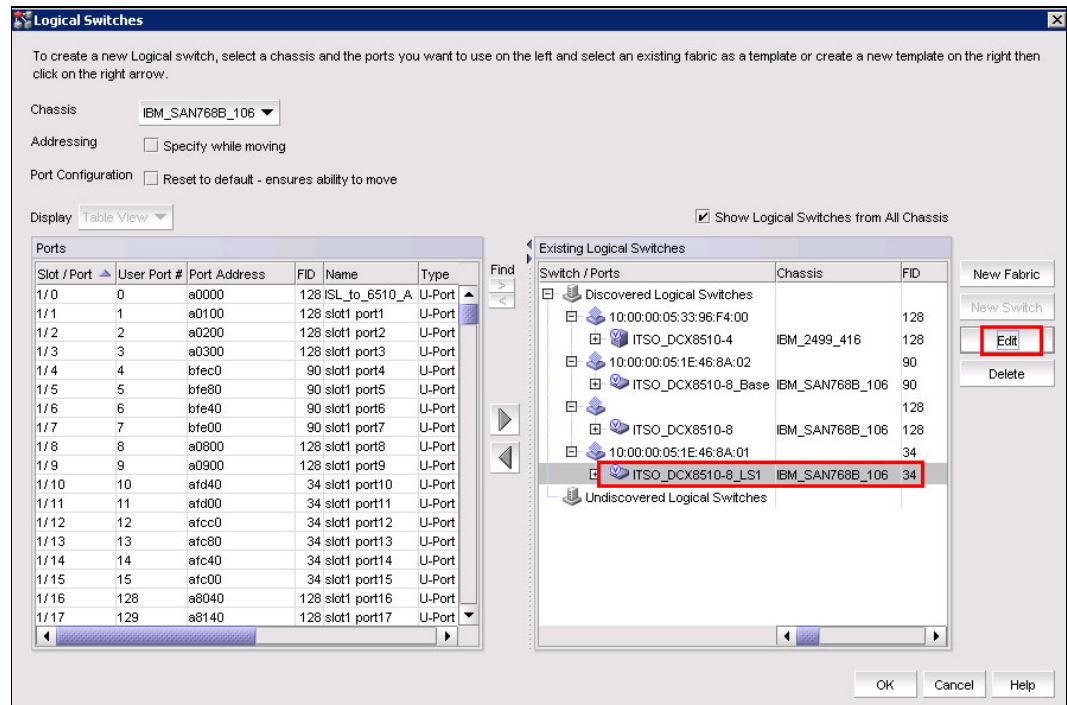

Figure 8-19 Change Logical Fabric ID
1. Select the Logical Switches window and click **Edit**. This step opens the Edit Properties window, where you can change the logical fabric ID, as shown in Figure 8-19.